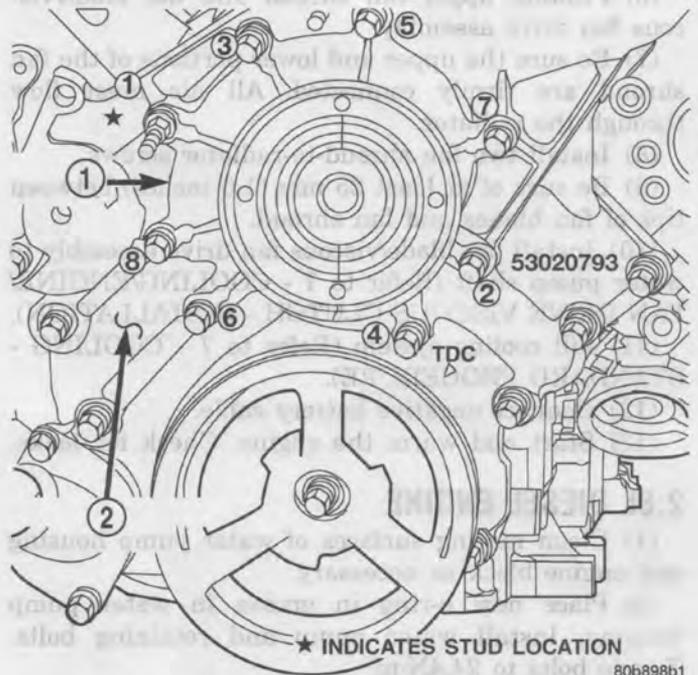

Fig. 48 Water Pump Installation—3.7L
- (1) Clean gasket mating surfaces.
- (2) Using a new gasket, position water pump and install mounting bolts as shown. (Fig. 48). Tighten water pump mounting bolts to 54 N·m (40 ft. lbs.) torque.